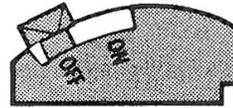

FIGURE 1
2. Move selector arm to the "Off" position. (See figure 1.)